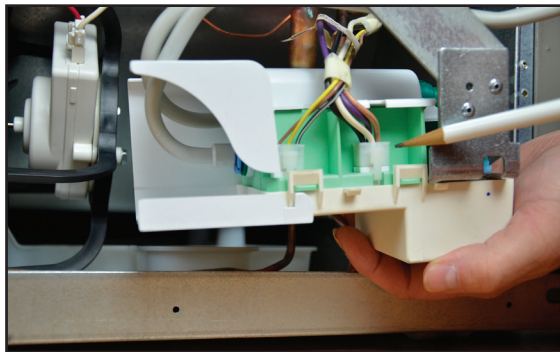

FIGURE 5
2. Unplug the wire harnesses. Disconnect the water lines. See *Figure 5*.